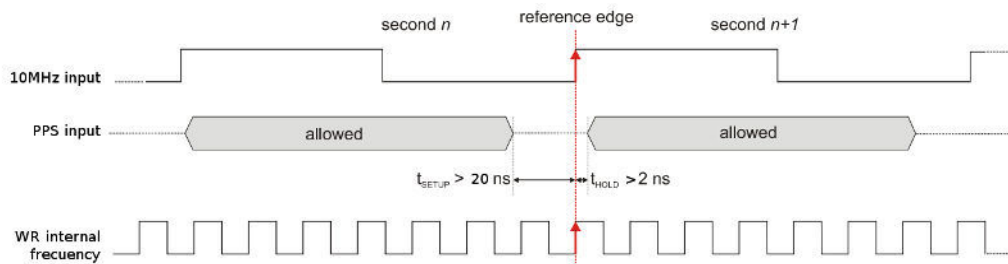

Figure 6: External reference requirements
- t_{setup} (PPS-to-10MHz) > 20 ns (see Figure 6)
The actual inter-second boundary is the 10 MHz rising edge after the rising edge of the PPS pulse (see Figure 6).